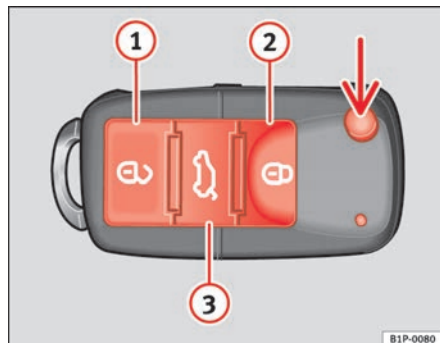
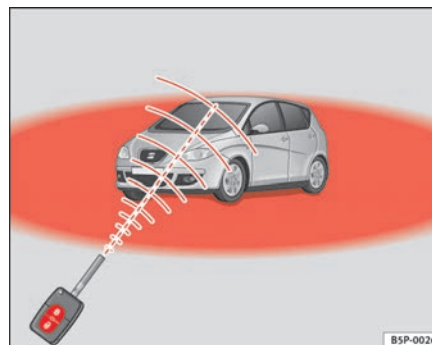

Fig. 64 Assignment of buttons on the remote control key
Fig. 65 Range of the remote control
Using the button $\Rightarrow$ fig. 64 (arrow) on the control, the key shaft is released.
Unlocking the vehicle $\Rightarrow$ fig. 64 ①.
Locking the vehicle $\Rightarrow$ fig. 64 ②.
Unlocking the tailgate. Press the button $\Rightarrow$ fig. 64 ③ until all indicators on the vehicle briefly flash. When the unlocking button $\Rightarrow$ fig. 64 ③ is pressed, 2 minutes remain for opening the door. Once this time has passed, it will lock once more.
Also, the battery indicator on the key $\Rightarrow$ fig. 64, will flash.
When the button $\Rightarrow$ fig. 64 ① is pressed once, the driver's door is unlocked, all others remain locked.
Press the button $\Rightarrow$ fig. 64 ① twice to unlock all doors.
- The remote control functions only when you are in range ⇒ page 100, fig. 65 (red area).
- If the vehicle is unlocked using the  ① button, the vehicle will be locked again automatically if any of the doors or the tailgate are not opened within 30 seconds of unlocking the vehicle. This function prevents the vehicle from remaining unlocked if the unlocking button is pressed by mistake.
- Use both keys that have been delivered with the vehicle; the key with the remote and the normal key ⇒ page 100, fig. 64 ⇒ page 100, fig. 65.
- Lock the vehicle from the driver side door lock using the key with the remote control ⇒ page 100, fig. 64 ⇒ page 100, fig. 65.